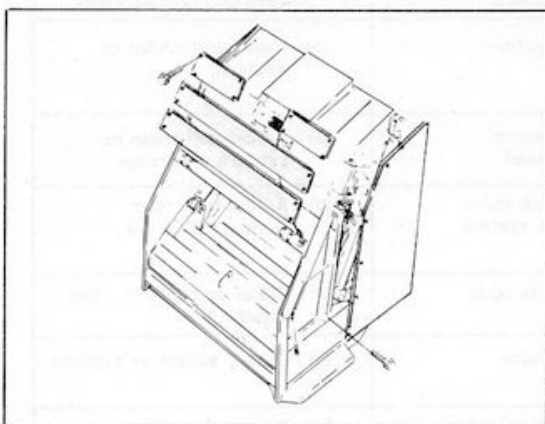

Figure 3-12. Tailgate Cover Removal
- a. Remove tailgate covers. (See figure 3-12.)